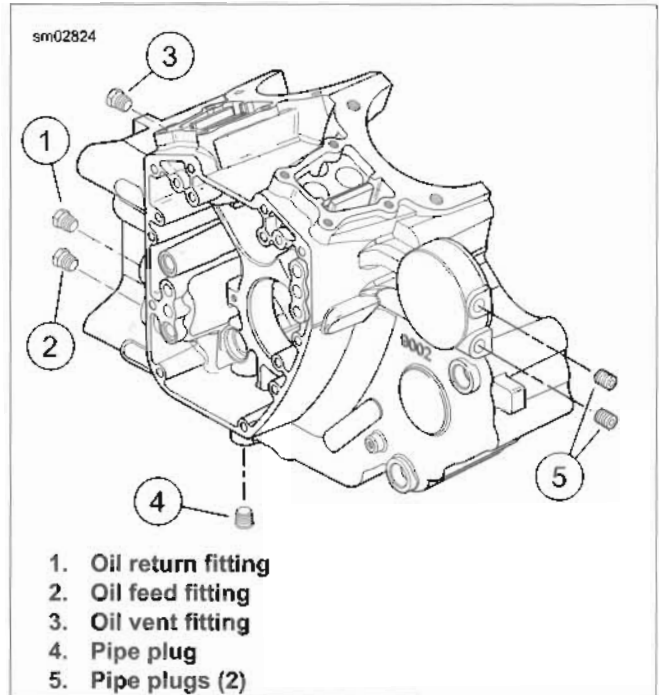

Figure 3-145. Oil Fittings and Pipe Plugs
1. See Figure 3-145. Remove parts.
3. See Figure 3-145. Install parts.